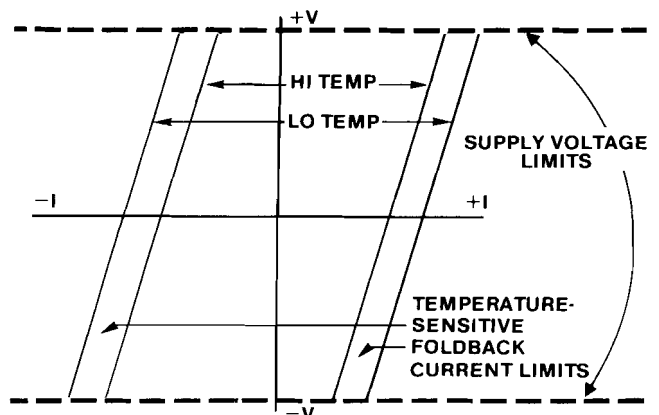
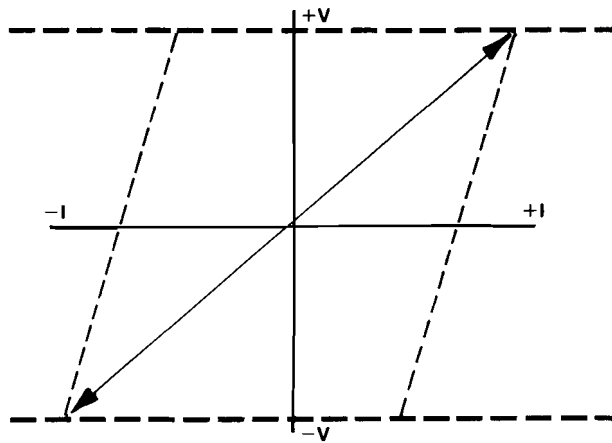

figure 4. Ringing-supply output foldback current limiting
figure 5. Ringing-supply resistive loading
3.08 A *class-B amplifier* provides the ringer output. The *amplifier* incorporates extensive protection for its output transistors, including bipolar foldback current limiting (see figure 4). This enhances the ringing supply's ability to drive resistive and resistive/capacitive loads, to carry dc current while driving loads, and to survive short-term overloads and faults. Figures 5 through 9 show current/voltage graphs that illustrate the aforementioned load-handling characteristics. The ringing supply output may float up to 150V off ground, provided that the common terminal is within 150V (peak) of the positive dc source and the *BIAS* switch is set to float.